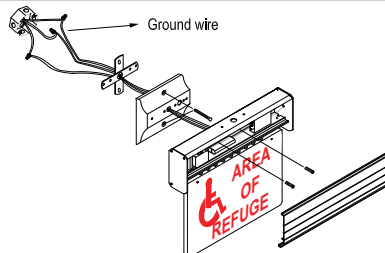

Fig. 7 Back (Wall) Mounting
Step 9	Assemble aluminum housing to canopy using provided screws, see Figure 7.